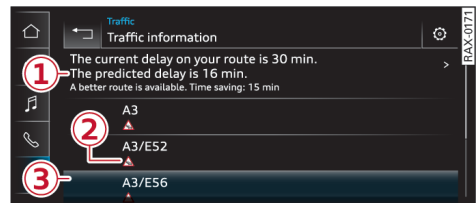

Fig. 143 Overview of traffic information
The MMI informs you if a better route is available via a notification or a message in the traffic information ① ⇒ *page 202, Fig. 143*. You can then choose which route you would like to use.
- **Message in the traffic information:** Press on the entry in the list ① ⇒ *page 202, Fig. 143*. Press on the information window for the better route (e.g. ② ⇒ *page 200, Fig. 142*).
Breakdowns, accidents and slippery roads will be displayed in the traffic messages ⇒ *page 202, Fig. 143*.